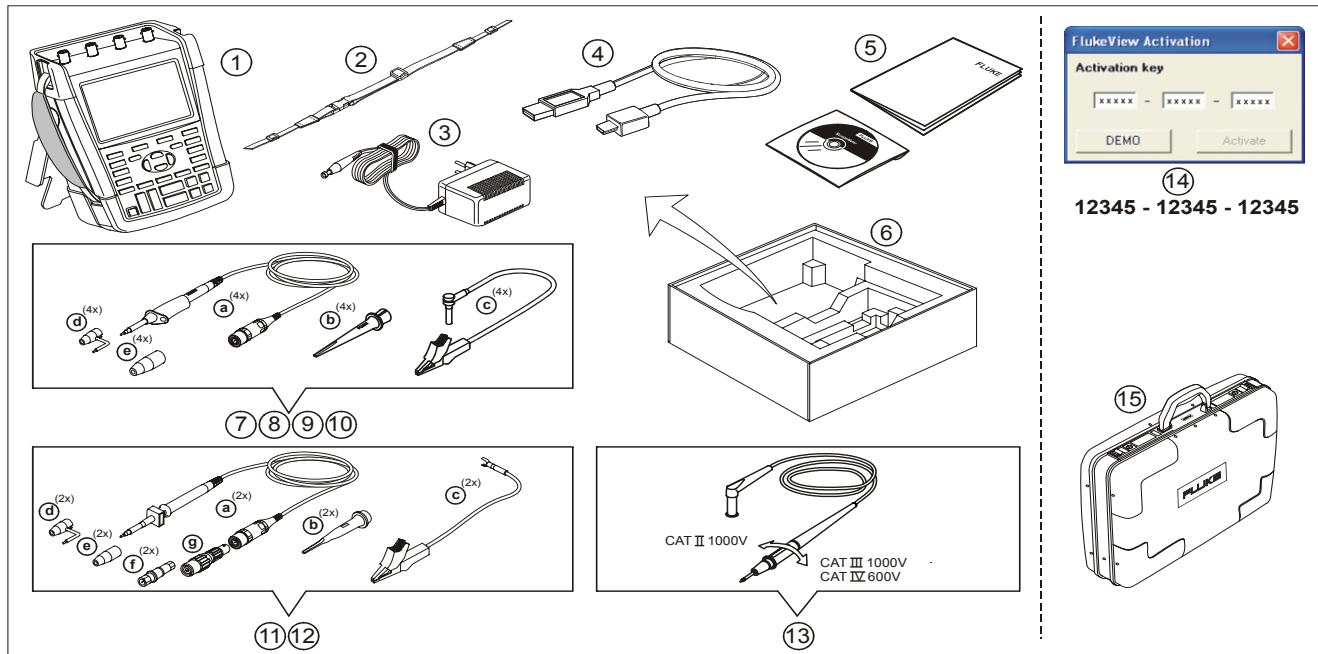

Figure 1. ScopeMeter Test Tool Kit
- Do not connect the ground spring (figure 1, item d) to voltages higher than 42 V peak (30 Vrms) from earth ground.